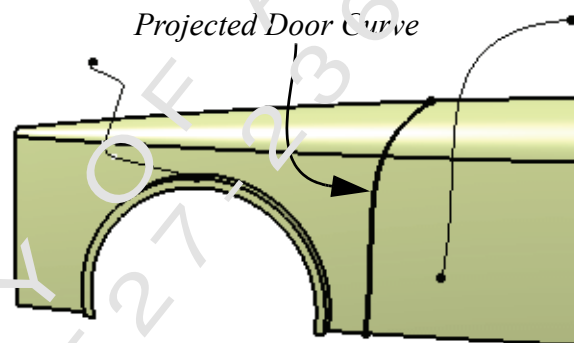

Figure 1-64
5. Rename the completed project as [Projected Door Curve]. The model displays as shown in Figure 1-64.